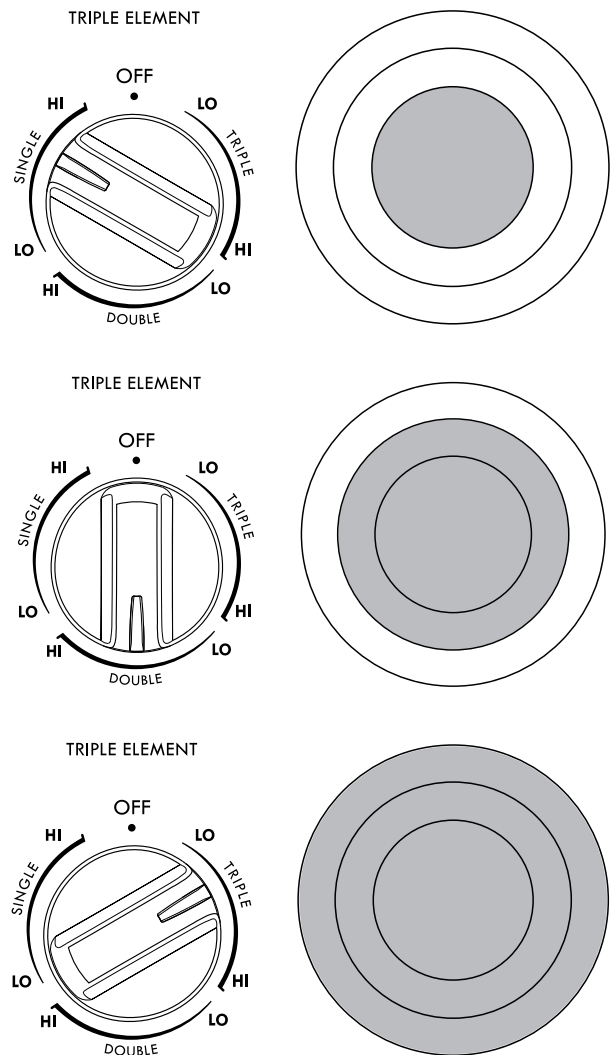

Figure 2: Triple element knob settings
2. Push in and turn the control knob to the inner element symbol for smaller cookware or to the inner and middle element symbol for average cookware or to the inner, middle, and outer element symbol for large cookware (Figure 2). Turn the knob to adjust the setting if needed.